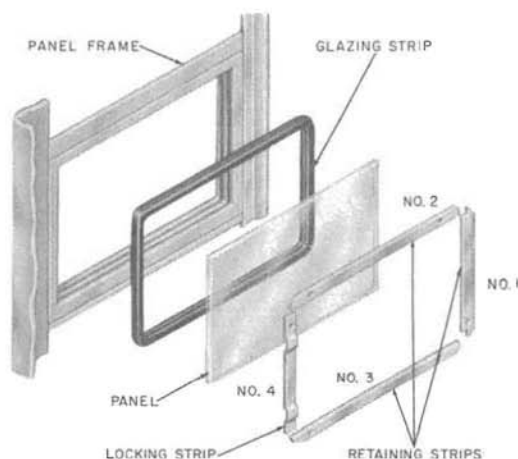

Fig. 22—Assembly of Side or Rear Panels
4.08 Booth panels and signs are held in place by four interlocking retaining strips. They are inserted in sequence as shown in Fig. 22. The No. 4 strip is rippled and is held in place by interface friction.
- (1) Remove No. 4 locking strip.
- (2) Remove retaining strips No. 2 and 3.
- (3) Remove retaining strip No. 1.
- (4) Remove panel and rubber glazing strip.
- (5) Apply rubber glazing strip to replacement panel.
- (6) Insert panel into frame with the beaded edge of glazing strip on the outside.
- (7) Replace retaining strips in sequence as shown in Fig. 22.
4.13 After roof is removed, the side and rear signs are removed in the same manner as the side panels (see 4.09 and Fig. 22).
4.34 Replace glass panels in similar manner as side panels (Fig. 22).